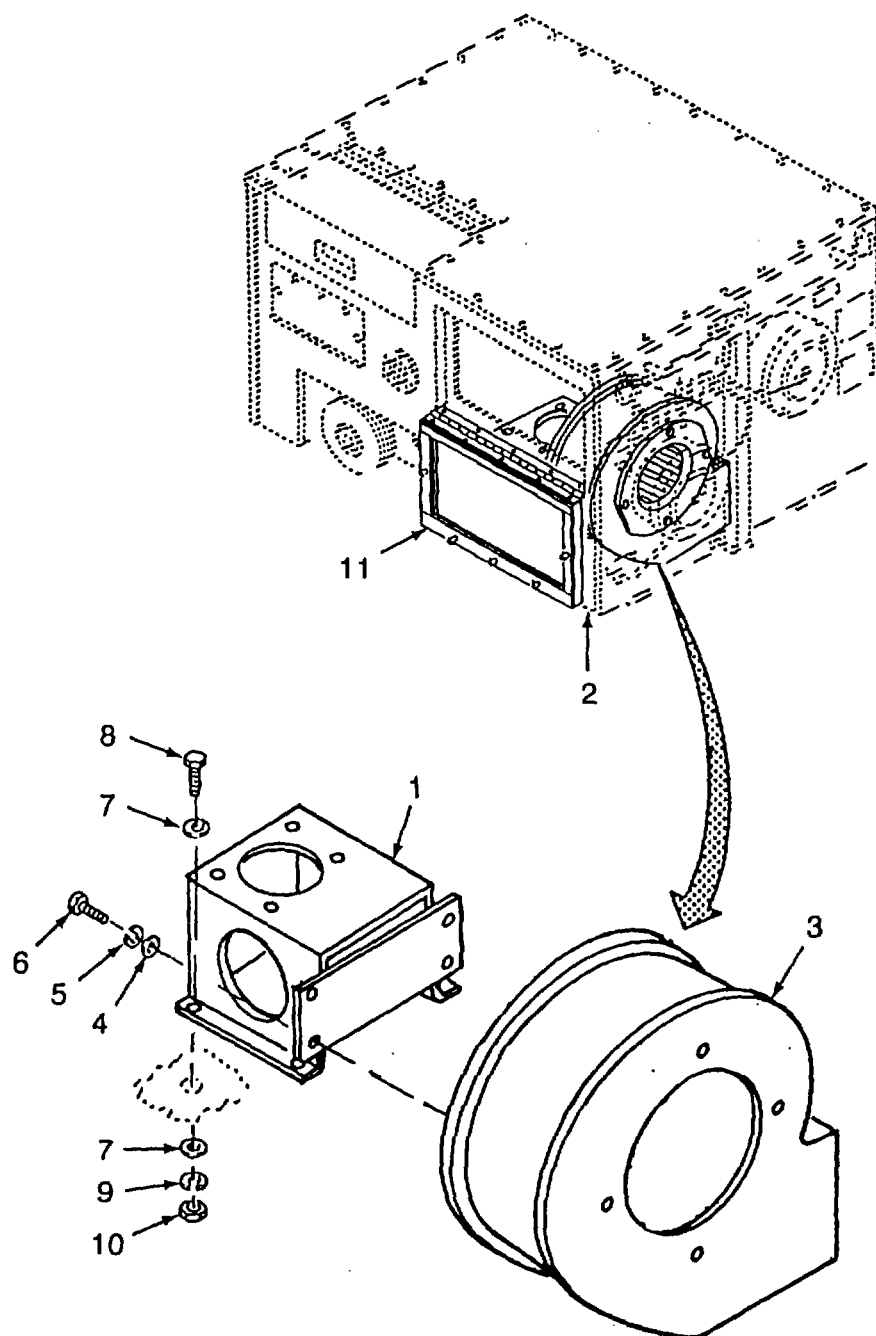

Figure 5-7. Circulating Air Fan/Pump Motor Assembly Installation
**d. Installation (Refer to Figure 5-7)**
- (1) Place motor base (1) in bottom of frame (2), align scroll (3) with motor base (1) and secure with four flat washers (4), four lockwashers (5) and four screws (6).
- (2) Align the motor base (1) with the mounting holes in bottom of frame (2).
- (3) Install eight flat washers (7), four screws (8), four lockwashers (9) and four nuts (10) in motor base (1) and frame (2). Hand tight only.
- (4) Install circulating air fan and motor IAW paragraph 4-31.
- (5) Tighten hardware installed in step (3).
- (6) Close right side front door (11).